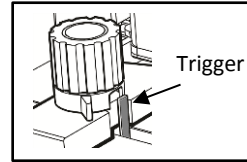

Figure 5
- E. **TABLE TOP TRIGGER:** Used to activate the punch when paper is pressed against the trigger. Machine must be on in table top trigger mode with the main power switch. (Figure 5)